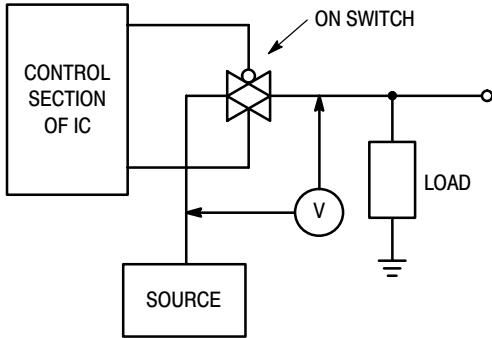

Figure 1.  $\Delta V$  Across Switch
| Recommended Static or Dynamic Voltage Across the Switch (3) (Figure 1) | ΔV switch | —               | Channel On  | 0           | 600               | 0           | —                | 600                | 0           | 300                | mV               |